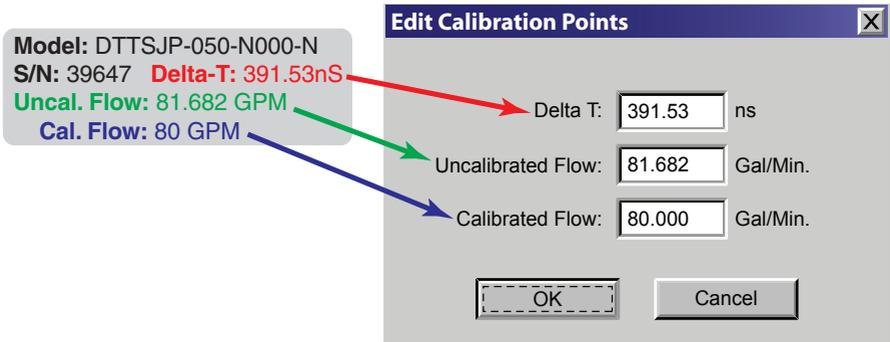

Fig. 16 Edit Calibration Points
- 7) Enter Delta T, Uncalibrated Flow, and Calibrated Flow values from the UTT10-015S to UTT10-040S calibration label, then click OK. See Fig. 16.